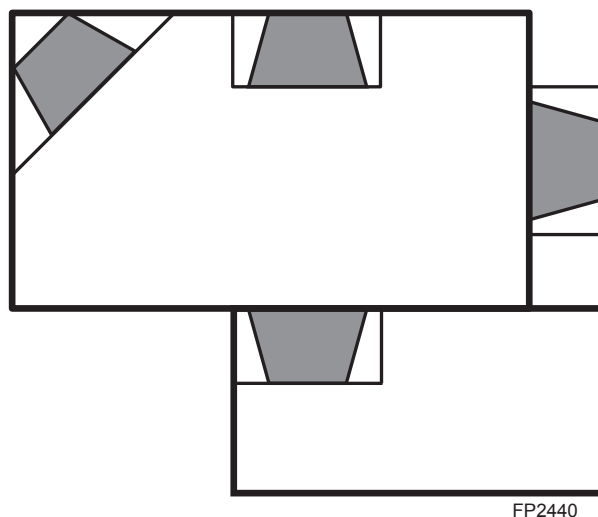

Figure 3 -
- Minimize modifications to existing construction. Refer to *Figure 3* below for location suggestions.